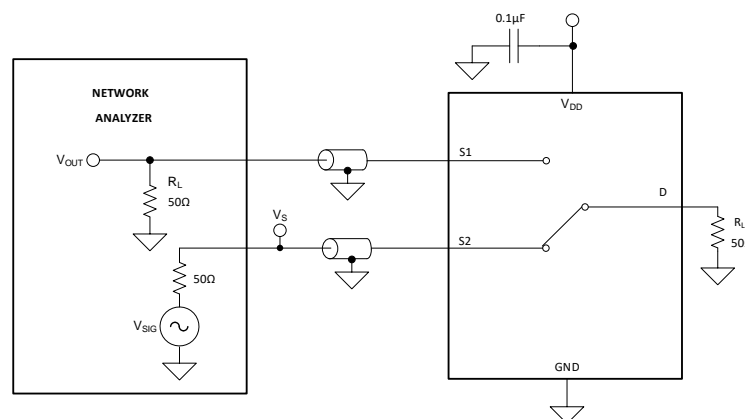

**图 13. Off Isolation Measurement Setup**
Off isolation is defined as the ratio of the signal at the drain pin (D) of the device when a signal is applied to the source pin (Sx) of an off-channel. 图 13 shows the setup used to measure, and the equation used to calculate off isolation.